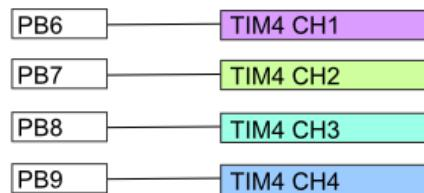

Figure 1.7: VNH5019 interface
**⚠** You need to select timer 4 and channel 1 or 2 only (see Fig.1.7) in your software development if you want to use the VNH5019 interface.